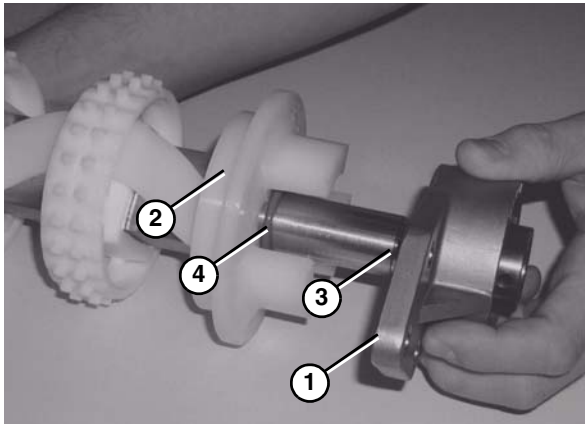

Figure 72
4. Attach O-rings (**Figure 72, item 4**), flanged pucks (**Figure 72, item 2**), washer (**Figure 72, item 3**) and the 3 hole flange with bearing (**Figure 72, item 1**) to the drive spindle.